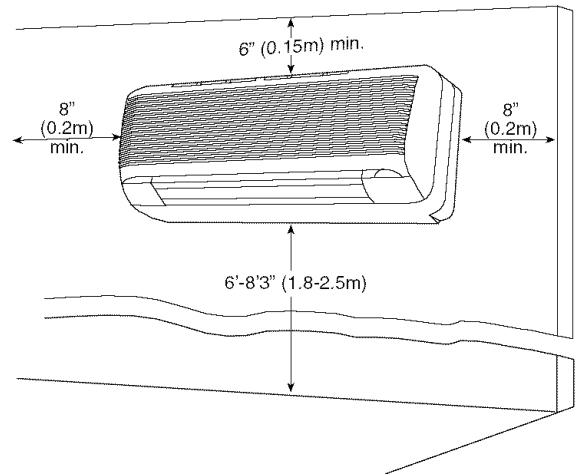

Fig. 2 — 40BNB, BNE Indoor Unit Clearances
2. Position the mounting bracket on the wall and level it using a spirit level (see Fig. 2 for minimum required clearance distances).